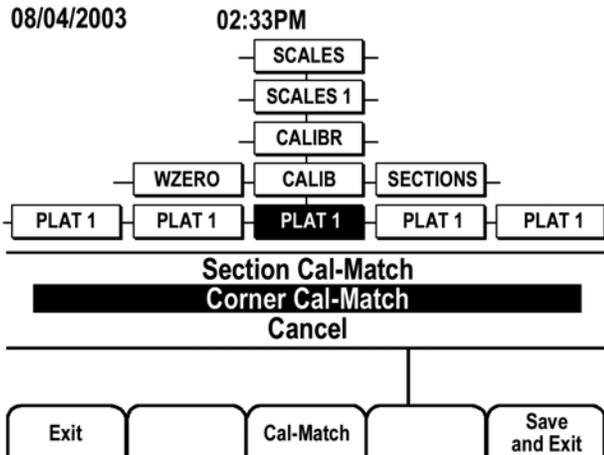

Figure 5-2. 920i Cal-Match Selection
6. Ensure scale is empty, then use the **up** and **down** keys to select **Corner Cal-Match** (see Figure 5-2) or **Section Cal-Match**. Press **enter**. The *iQUBE* calculates the zero reference point.